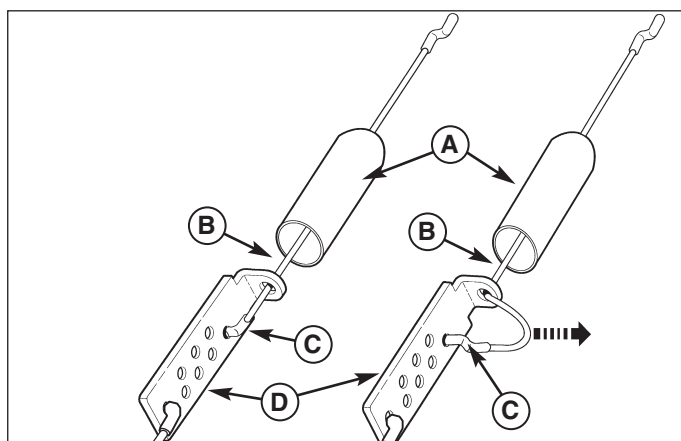

Figure 18. Traction Drive Cable Adjustment
1. Remove the z-hook (C, Figure 18) from the auger drive lever (A).
3. Pull the auger control cable (B) through the eyehole in the cable adjustment bracket (D) as shown by the arrow in Figure 18. This will create enough slack to allow the "Z" hook to be easily removed.
4. Install the "Z" hook (C) into the next available adjustment hole in the cable adjustment bracket (D). This is the adjustment hole located one notch down from where the "Z" hook (C) was previously attached.
5. Pull the auger control cable (B) back through the eyehole of the cable adjustment bracket (D) until all the slack is taken out of the auger control cable (B).
6. Slide the cable boot (A) back down over the cable adjustment bracket(D).
7. Install the "Z" hook (B, Figure 18) to the auger drive lever (A).